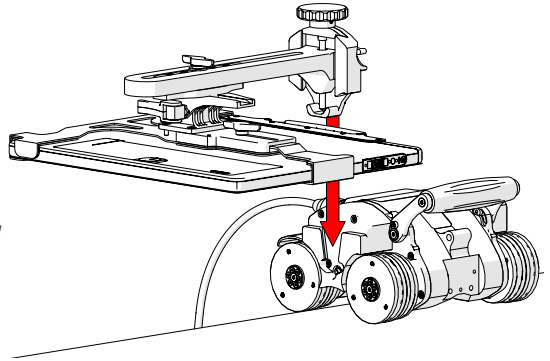

Fig. 102 - Mount detector bracket to the magnetic crawler
2. Mount the detector bracket (Fig. 102) to the crawler (see “Mounting Detector Bracket to Crawler” on page 30).